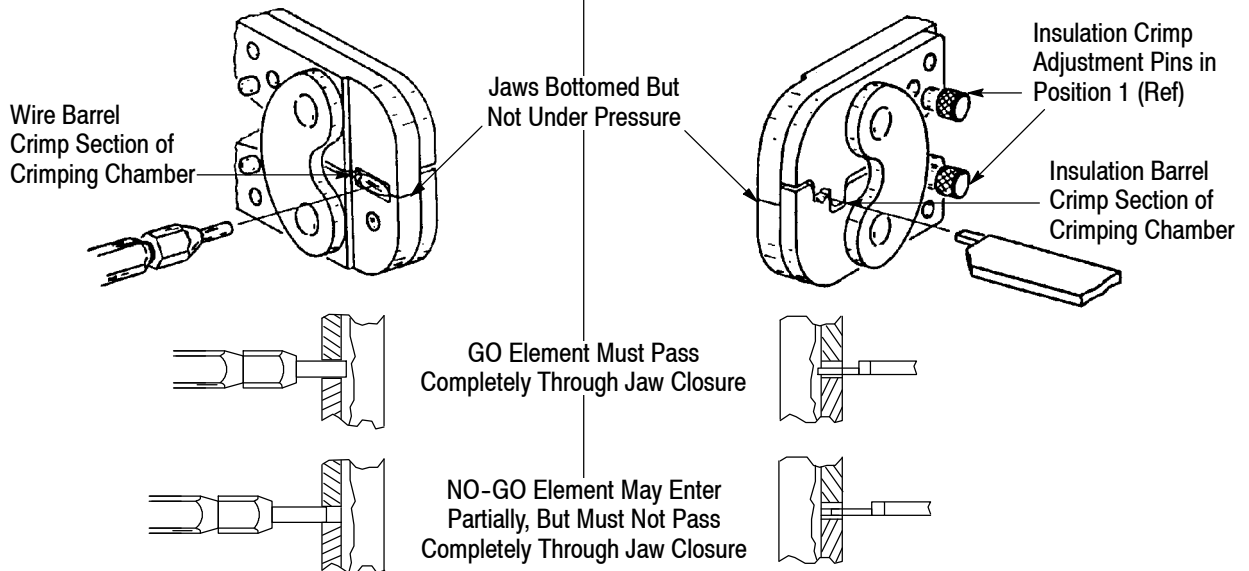

Figure 9
2. Align the GO element of the gage with the wire barrel crimp section of the crimping chamber. Refer to Figure 9. Push the element straight into the crimping chamber without using force. The GO element must pass completely through the crimping chamber.
3. Align the NO-GO element of the gage with the same crimp section, and try to insert the element. The NO-GO element may start entry, but it must not pass completely through the crimping chamber. Refer to Figure 9.